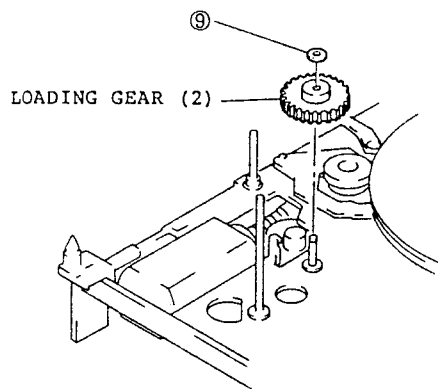

Fig. 2-88
9. Remove one (1) washer holding the loading gear (2). (See Fig. 2-88)